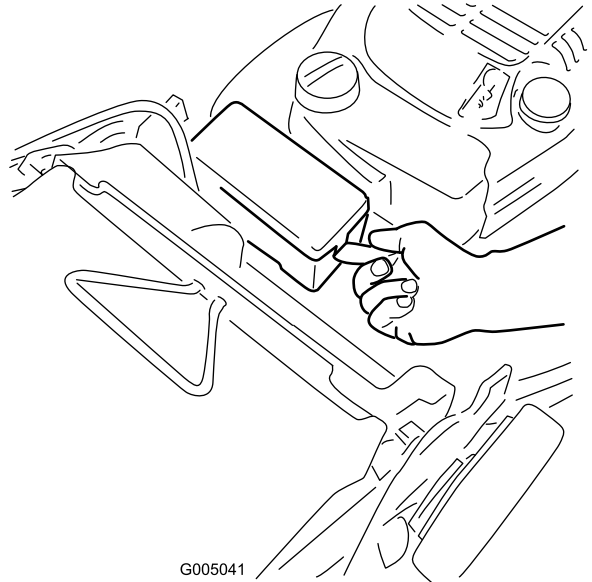

Figure 6
1. Unclip both ends of the battery cover and remove it (Figure 6).